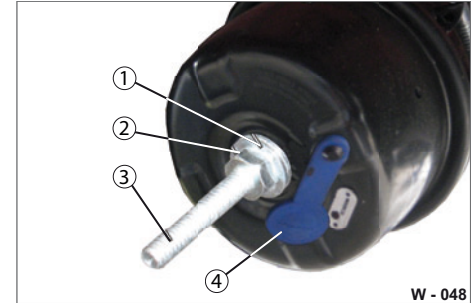

Fig. 48 Releasing spring tension
- ▶ Slide on the washer (Fig. 48/1).
- ▶ Screw the hexagonal nut (Fig. 48/2) onto the release screw (Fig. 48/3).
- ▶ Unscrew the hexagonal nut (Fig. 48/2).
- ▶ Remove the washer (Fig. 48/1).
- ▶ Turn the release screw (Fig. 48/3) by 90° and remove it.